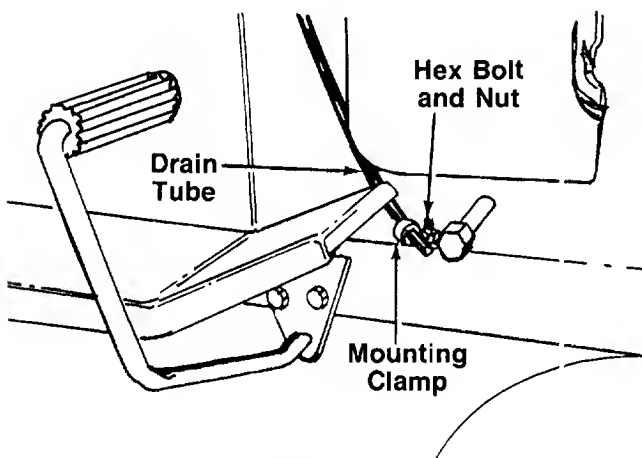

FIGURE 9A.—18 H.P. Models
5. **18 H.P. models only:** Route the battery drain tube down beside the oil drain pipe on the **right** side of the tractor. Slip the end of the drain tube into the mounting clamp provided in hardware pack. Secure the mounting clamp to the tractor by placing the clamp over the hex bolt and nut which hold the engine pulley belt guard to the frame. Secure in place with hex lock nut. See figure 9A.